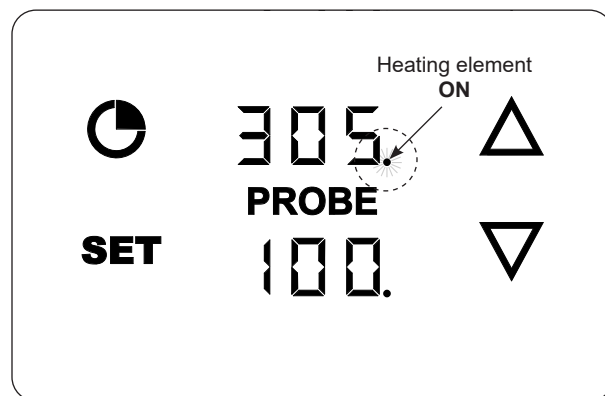

Fig. 29-2 Heating element ON
- The **dot** next to the grilling temp. indicates that the heating element is **on**. The **dot** turns on and off intermittently as the element maintains the set temp. See Fig. 29-2.